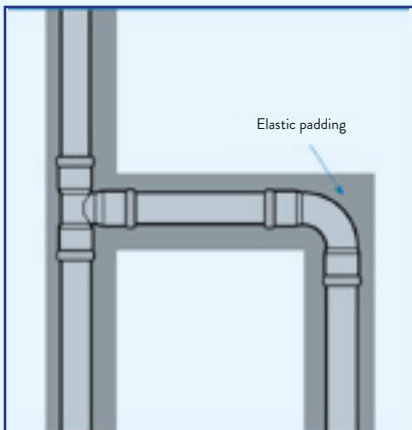

Fig. 1
Modern installations are, with the exception of industrial installations, seldom visibly installed and are usually installed as flush-mounted and floating along floor coverings. In the case of visibly installed installations or those that run under galleries, there is usually sufficient space. However, in the case of pipes that have to be cleaned, an elastic protective filling made of insulation material must be used, such as glass wool or plastic (closed-cell foam) (Fig. 1).
- Diameters 15, 18, 22, 28, 35, 42 and 54 with HH ends for press manufactured in AISI-316L (1.4404) (Fig. 1)
(Fig. 1)